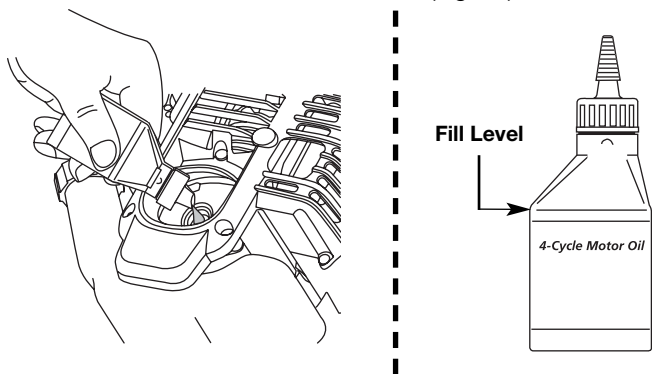

Fig. 25
**NOTE:** Use the bottle and spout saved from initial use to measure the correct amount of oil. The top of the label on the bottle measures approximately 3.04 ounces (90 ml) or 3/8 cup (Fig. 25). Check the level. See Checking the Oil Level. If the level is low, add a small amount of oil and recheck. Do not overfill (Fig. 25).